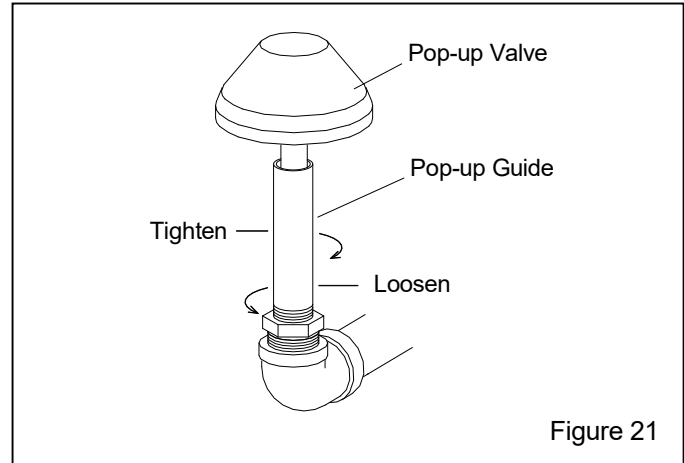

Figure 21
8.7.5 Use a short pipe wrench to unscrew the pop-up valve guide by turning it counterclockwise, as shown in Figure 21. Remove the pop-up valve and guide from the machine.